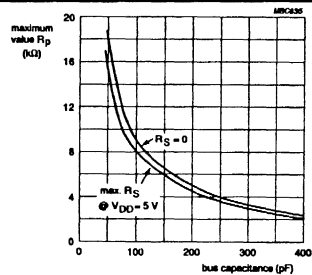
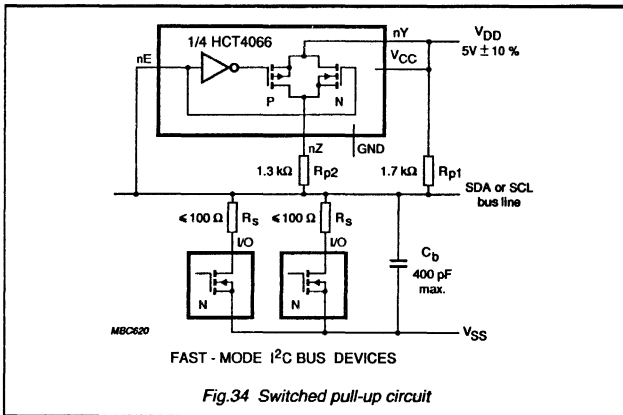
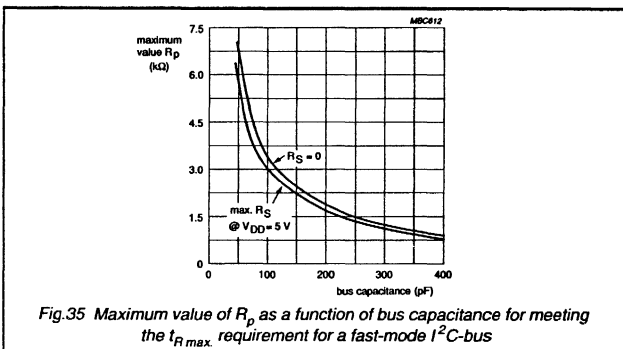

Fig.25 Maximum value of  $R_p$  as a function of bus capacitance for a standard-mode I2C-bus
Fig.34 Switched pull-up circuit
Fig.35 Maximum value of  $R_p$  as a function of bus capacitance for meeting the  $t_{R,max}$  requirement for a fast-mode I2C-bus
The bus capacitance is the total capacitance of wire, connections and pins. This capacitance limits the maximum value of  $R_p$  due to the specified rise time. Fig.25 shows  $R_{p,max}$  as a function of bus capacitance.
- The external pull-up devices connected to the bus lines must be adapted to accommodate the shorter maximum permissible rise time for the fast-mode I2C-bus. For bus loads up to 200 pF, the pull-up device for each bus line can be a resistor; for bus loads between 200 pF and 400 pF, the pull-up device can be a current source (3 mA max.) or a switched resistor circuit as shown in Fig.34.
The supply voltage ( $V_{DD}$ ) and the maximum output LOW level determine the minimum value of pull-up resistor  $R_p$  (see Section 9.1). For example, with a supply voltage of  $V_{DD} = 5 \text{ V} \pm 10\%$  and  $V_{OL \text{ max.}} = 0.4 \text{ V}$  at 3 mA,  $R_{p \text{ min.}} = (5.5 - 0.4)/0.003 = 1.7 \text{ k}\Omega$ . As shown in Fig.35, this value of  $R_p$  limits the maximum bus capacitance to about 200 pF to meet the maximum  $t_R$  requirement of 300 ns. If the bus has a higher capacitance than this, a switched pull-up circuit as shown in Fig.34 can be used.
The switched pull-up circuit in Fig.34 is for a supply voltage of  $V_{DD} = 5 \text{ V} \pm 10\%$  and a maximum capacitive load of 400 pF. Since it is controlled by the bus levels, it needs no additional control signals. During
The maximum and minimum values for resistors  $R_p$  and  $R_s$  connected to a fast-mode I2C-bus can be determined from Fig.23, 24 and 26 in Section 9.1. Because a fast-mode I2C-bus has faster rise times ( $t_R$ ) the maximum value of  $R_p$  as a function of bus capacitance is less than that shown in Fig.25. The replacement graph for Fig.25 showing the maximum value of  $R_p$  as a function of bus capacitance ( $C_b$ ) for a fast mode I2C-bus is given in Fig.35.
2) Cb = capacitance of one bus line in pF. Note that the maximum tF for the SDA and SCL bus lines quoted in Table 4 (300 ns) is longer than the specified maximum tOF for the output stages (250 ns). This allows series protection resistors (RS) to be connected between the SDA/SCL pins and the SDA/SCL bus lines as shown in Fig.34 without exceeding the maximum specified tF.